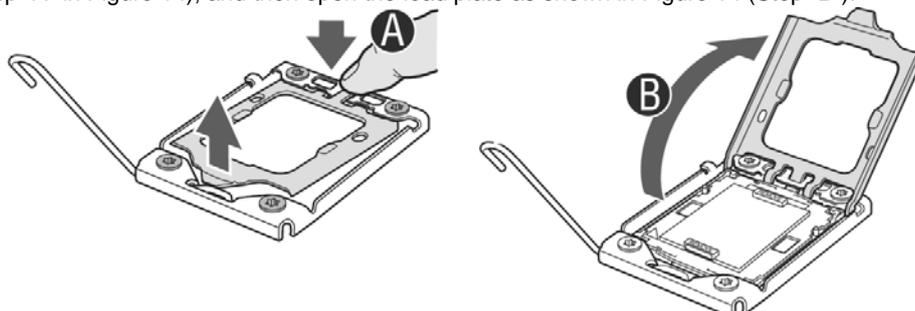

Figure 14. Opening the Processor Socket Load Plate
6. Open the load plate: push the rear tab with your fingertip to bring the front end of the load plate up slightly (Step “A” in Figure 14), and then open the load plate as shown in Figure 14 (Step “B”).